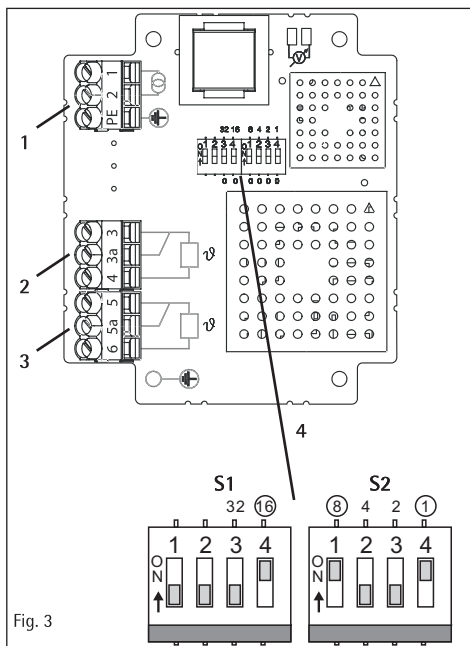

Fig. 3
A 3-conductor indicator instrument (2 measuring lines and 1 compensation line) is to be used. The sensor lines are connected to terminals 3 and 4 and the equalizing line to terminal 3a (see figure 3, item 2).
When a 2-conductor indicator instrument is used (2 measuring lines), one measuring line is connected to terminal 3 and the other measuring line is connected to terminal 4 (see figure 3, item 2).
line must also be connected to terminal 3a (see figure 3, item 2).
When the configuration of the ZT-F2.1 with two Pt100 measuring resistors is used, an additional indicator instrument can be connected to terminals 6, 5a and 5 (see figure 3, item 3).
The ZT-F2.1 can be delivered with the 4..20mA analog output instead of the Pt100 measuring resistor. The 2-conductor connection technique (R/L max. 750Ω at 24 VDC) is used with connection to terminals 3a and 3 (see figure 2 and figure 3, item 2).
Optional configuration of the ZT-F2.1 with two analog outputs is also possible. Connection is then made to terminals 5a and 5 (see figure 2 and figure 3, item 3).
The hot-spot gradient (at nominal load) is set via with the two DIP switches S1 and S2 located on the ZT-F2.1 board. Determine the position of switches S1 and S2 for the desired gradients in the table in the appendix (chap. 12.2 - hot-spot gradient table for 2A CT nominal current) and set these accordingly (see figure 3). The hot-spot gradient can be set from 4 K to 50 K in increments of 1 K.
For example, the switch setting shown in figure 3, item 4 must be set for a hot-spot gradient of 25 K.
See chap. 13.2 (hot-spot gradient table for 2 A CT nominal current) for the switch positions to be set for the DIP switches (figure 3, item 4).